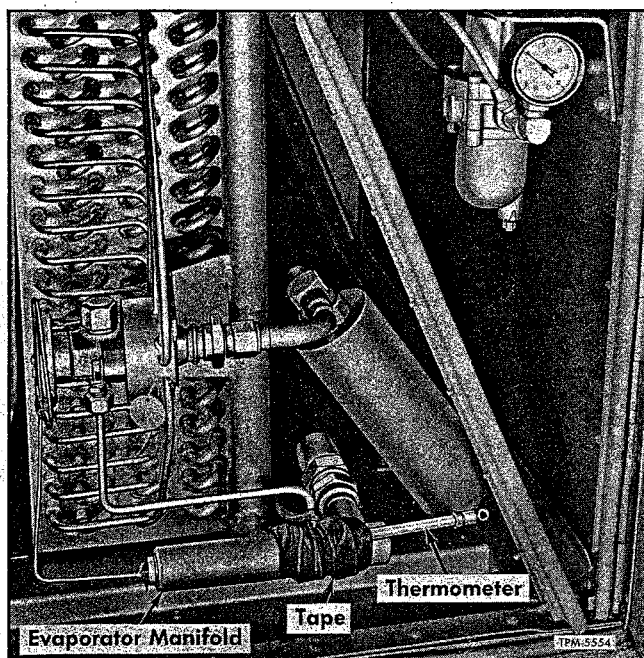

Figure 10—Checking Superheat
1. Apply small quantity of a thermo-type mastic to a remote-reading thermometer and attach to evaporator coil outlet, as shown in left view of figure 10. Thermo-mastic may be available at a local refrigeration service establishment, or it can be obtained from the Alco Valve Company, St. Louis, Missouri.